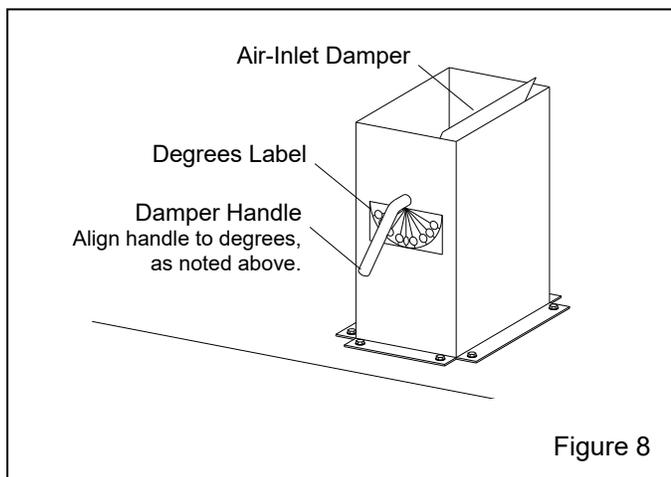

Figure 8
2.6 Set Air-Inlet Damper – Figure 8